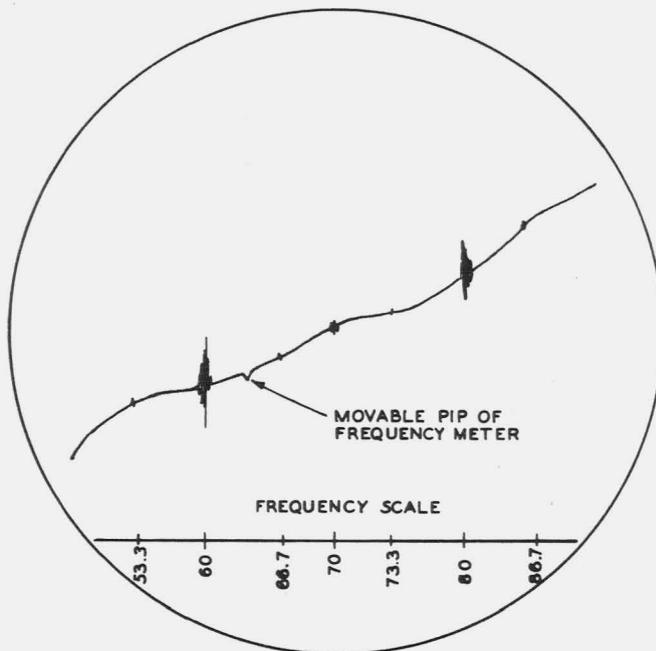

Fig. 14 - Scope Pattern in Frequency Meter Calibration
(8) Adjust the oscilloscope gain and centering controls to obtain a pattern as shown in Fig. 14. Vertical marks will be observed at points where the sweeping oscillator fundamental and harmonics beat with the harmonics of the microwave generator output. These beat indications will appear as follows, listed in order of reducing size: